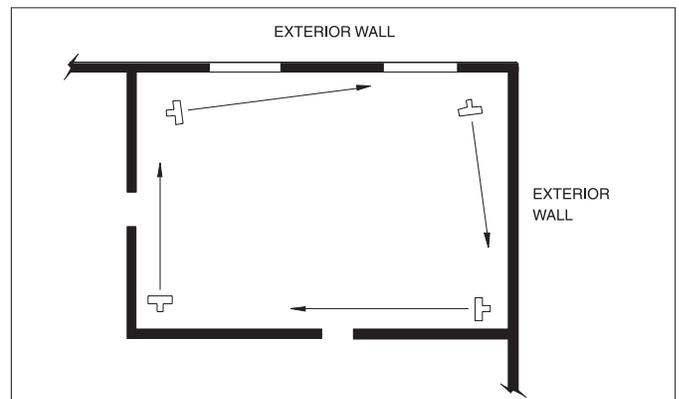

Figure 1
- 1.4 The air discharge is directed across areas of heat loss, such as doors and windows (Figure 1).
- 1.5 The air discharge is directed along, and at a slight angle towards, exterior walls (see Figure 1).